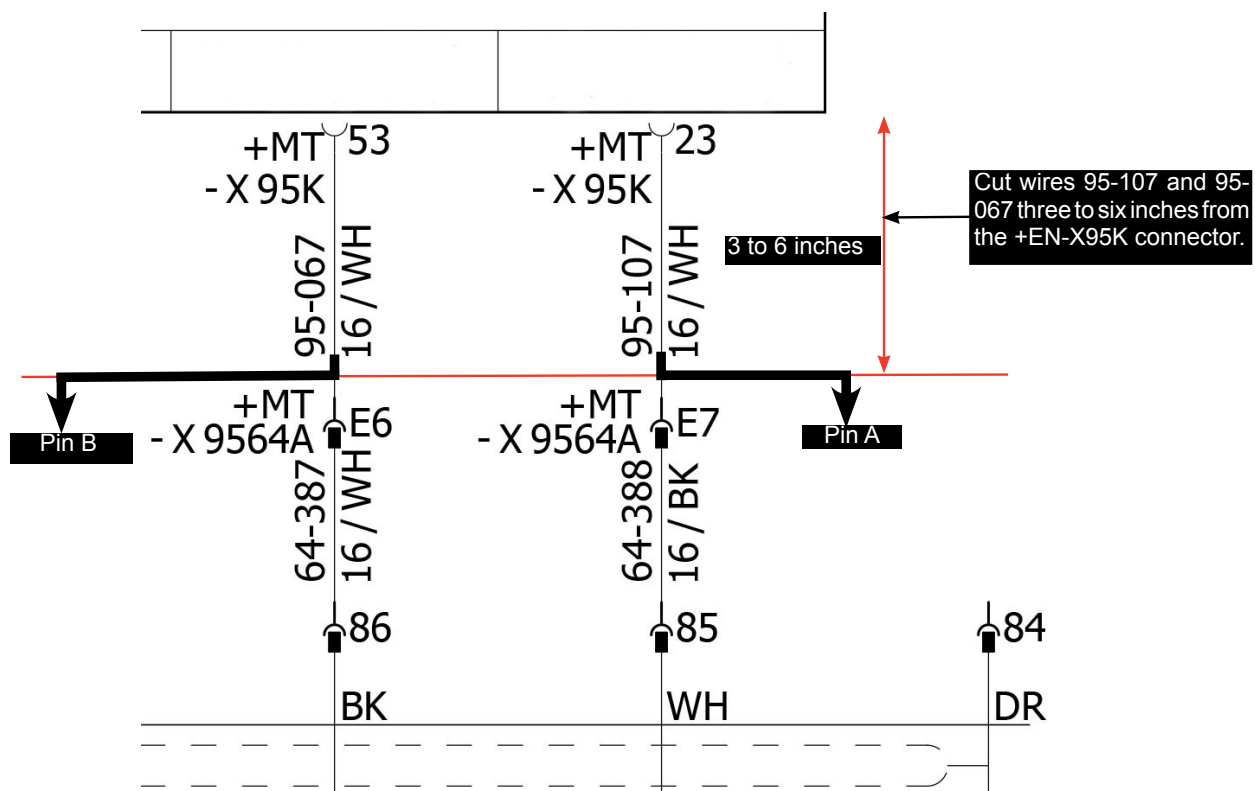

Figure 11 - Wire Diagram: Cut wires 95-107 and 95-067 Three to Six Inches from the +MT-X95K Connector.
- 1.12. Cut wires 95-107 and 95-067 three to six inches from the +MT-X95K connector (see Figure 11).